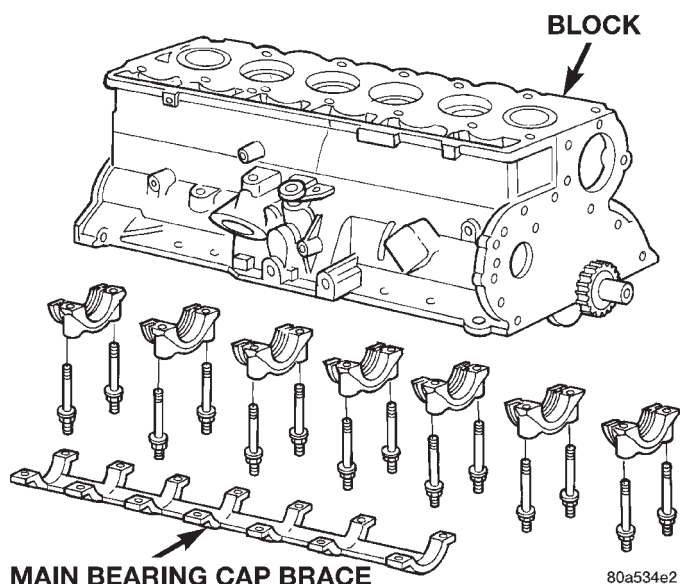

Fig. 53 Main Bearing Caps and Brace.
- (1) Disconnect negative cable from battery.
- (2) Remove the spark plugs.
- (3) Raise the vehicle.
- (4) Remove the oil pan and oil pump.
- (5) Remove main bearing cap brace (Fig. 53).